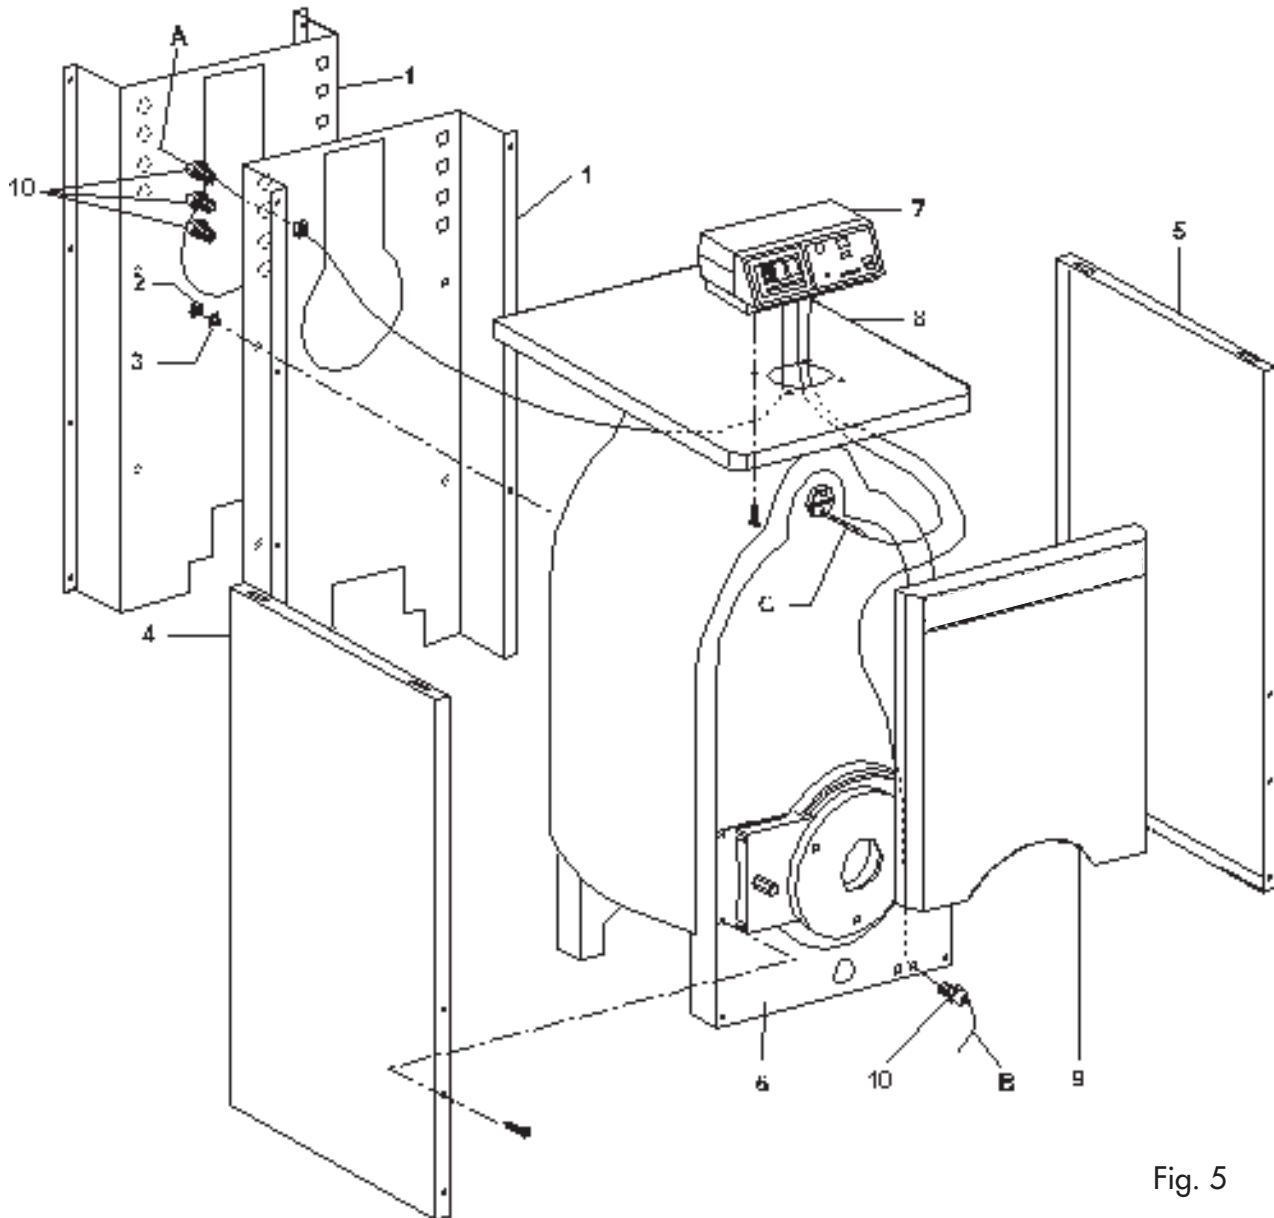

Fig. 5
- 4) Fit instrument panel 7 to cover 8, passing the various wires through the hole. Before fitting the cover to the boiler pass the feeding wire A and the burner wire B through the appropriate holes and fix by using the wire holders 10 as supplied in the electrical panel (fig. 5).
- 5) Threads any sensors into the appropriate openings (fig. 5).
- 6) Complete the job by fitting the front panel 9 onto the boiler (fig. 5).